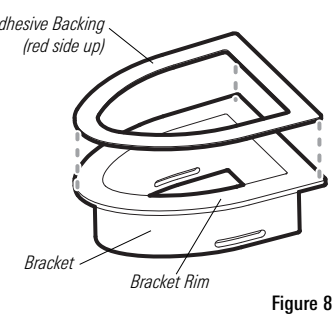

Figure 8
4. Peel the tan liner from the adhesive backing (included), and place the adhesive side of the backing onto the flat rim of the bracket. The red liner will be face-up. Press firmly around all surfaces of the adhesive backing so that it is sealed evenly to the bracket rim (Figure 8).